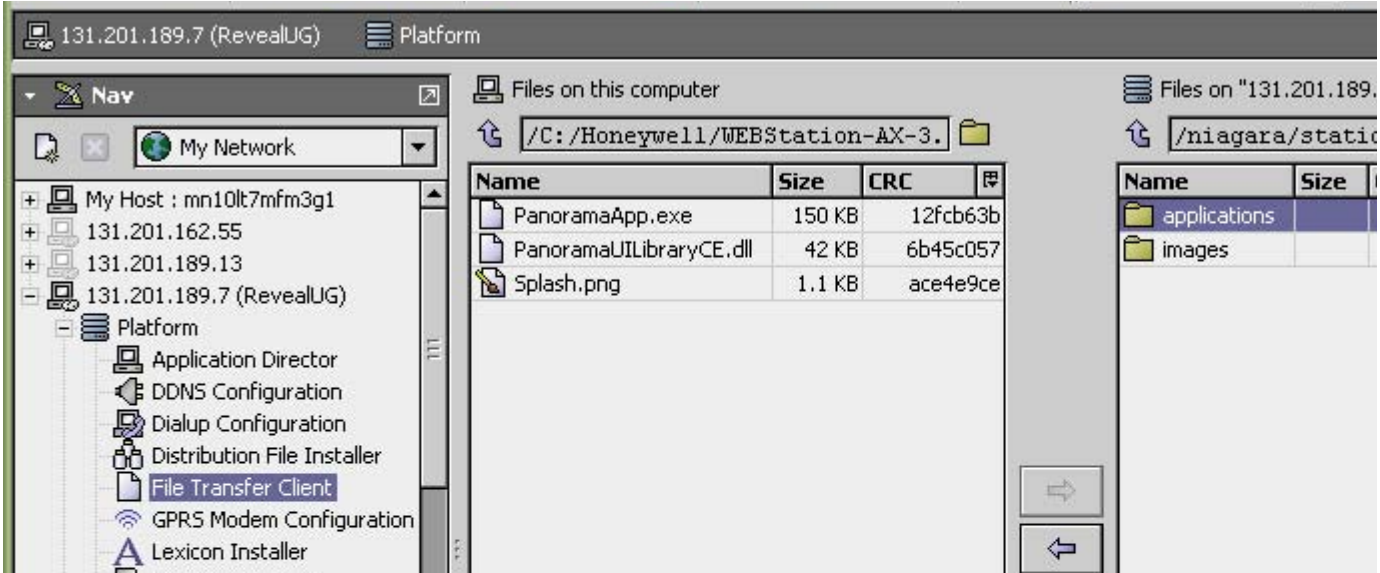

Fig. 44. New subdirectory folder.
5. In the right-side pane, double-click on the LCD folder under the station directory of the WEBS/CP Controller (see Fig. 44 on page 34).